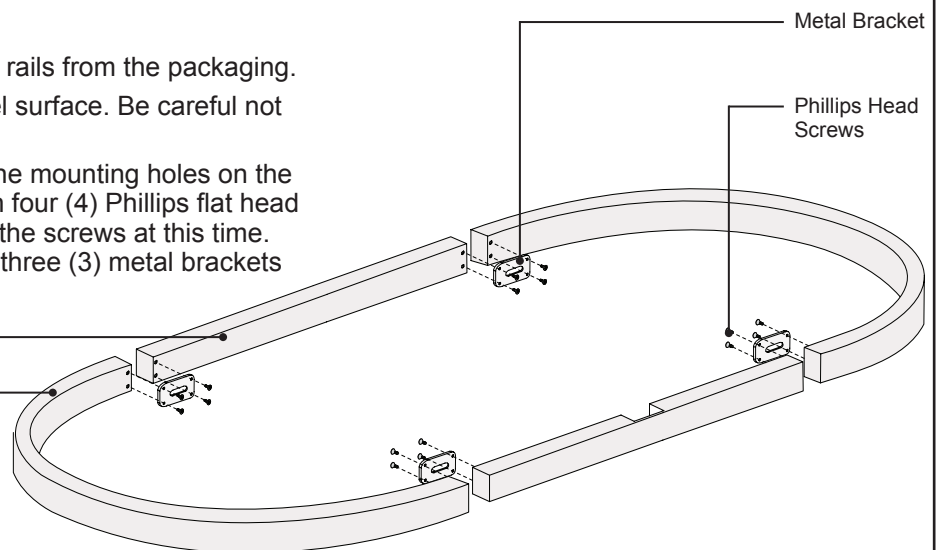

Figure 13. Wood Frame Assembly
- ❶ Remove the inner and outer frame rails from the packaging.
- ❷ Place the frame rails on a soft level surface. Be careful not to scar the wood finish.
- ❸ Place one (1) metal bracket over the mounting holes on the frame rails. Insert and fingertighten four (4) Phillips flat head screws. Do not completely tighten the screws at this time. Repeat this step for the remaining three (3) metal brackets (Figure 13).